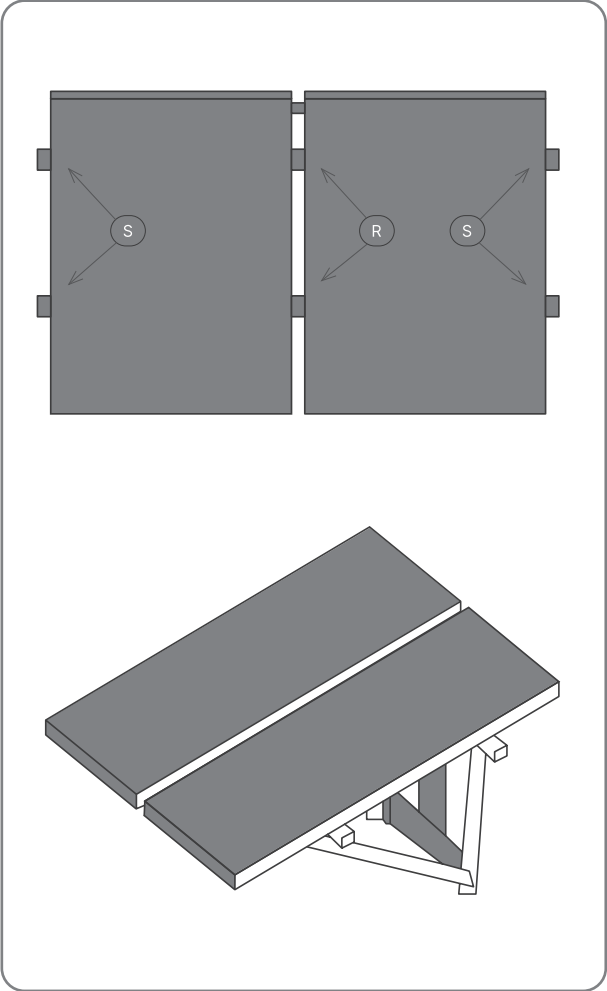

Figure 9. Installation of Carrier and Tilt Bracket.
a. Installation of Carrier and Tilt Bracket, refer to Figure 9:
1. Attach the Middle Clamp (R) to the middle of the Solar Profiles (G) and tighten lightly.
2. Place the first solar panel on the Solar Panel Profile (G) so that the Middle Clamps (R) holds one side of the solar panel and slide two (2) of the End Clamp (S) into the solar profile and fasten the end clamps.
3. Place the second solar panel on the Solar Panel Profile (G) and push it towards the Middle Clamp (R), so that the Middle Clamp holds the solar panel.
4. Slide the two End Clamp (S) into the Solar Profile (G) and fasten the End Clamp (S).
5. Tighten the Middle Clamp (R).